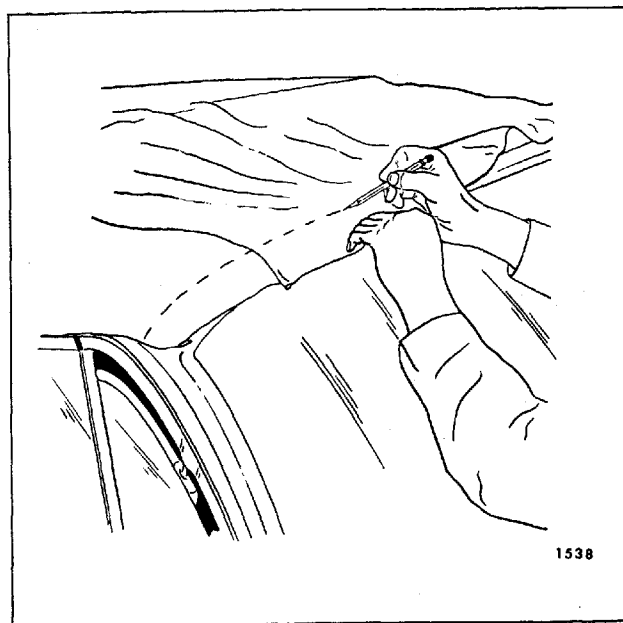

Fig. 6-43—Marking Top Material At Front Roof Rail
28. At front roof rail, pull top trim material forward to desired tension. While maintaining tension on top trim, place a pencil mark on outer surface of trim material along forward edge of front roof rail (Fig. 6-43).